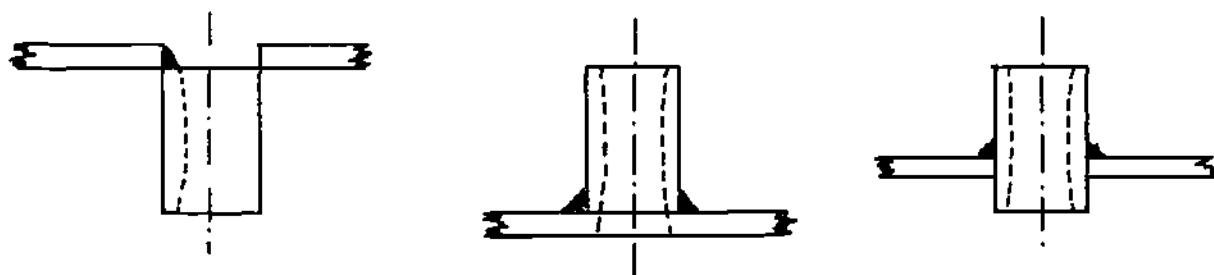

Figure 12-32. Floor or Roof Fitting Installation Procedure
- Step 3. Install and weld as shown (Figure 12-32)